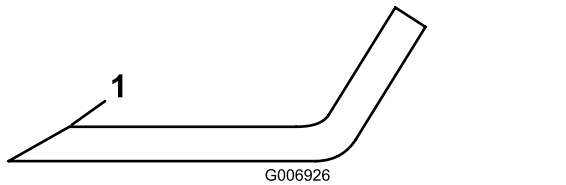

Figure 69
4. Inspect the cutting edges of all the blades, sharpen the cutting edges if they are dull or nicked, sharpen only the top of the cutting edge, and maintain the original cutting angle to ensure sharpness (Figure 69).